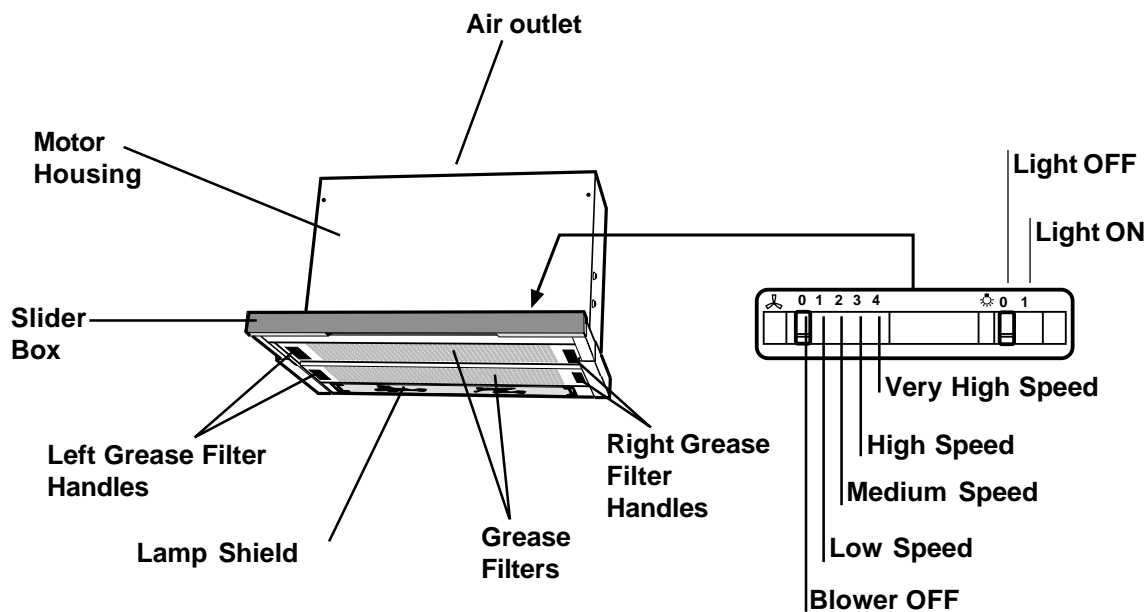

Figure 7
- Fix the hood permanently with two screws (4.5x16) per side to be inserted from the inside of the hood to the corresponding side fixing points 1 and 2 drilled on the cabinet, see figure 7.